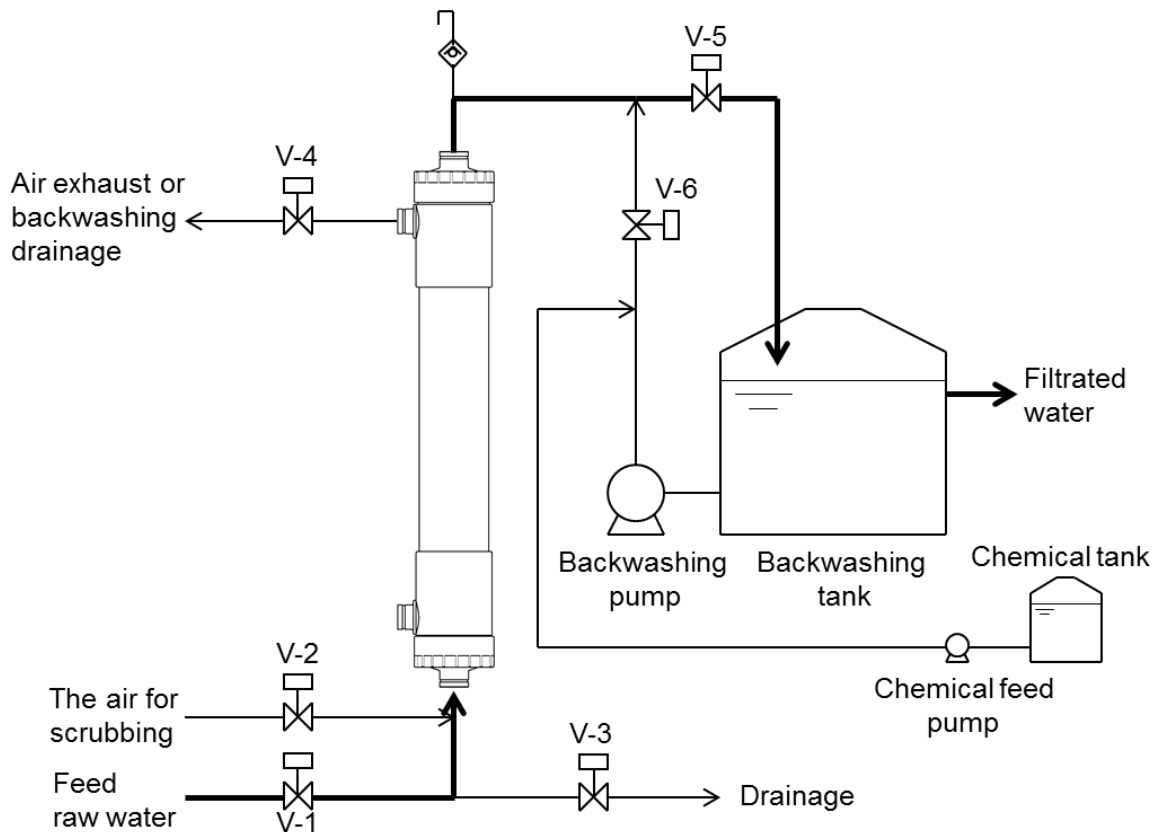

Fig. 4 Typical example of piping
- Connect the piping to each connection point of the module with Housing type joints (HFU-2020AN, HFU-1020AN) (see Fig. 4). The maximum fastening power of the Housing type joints should not exceed 40 Nm. When you tighten or loosen the Housing type joints, make certain to maintain sufficient space prior to the work and be careful not to be wounded by swinging out or clipping your fingers.
- (1) Check that all piping is connected appropriately and flushed out prior to the operation. Fig. 4 shows a typical example of piping.